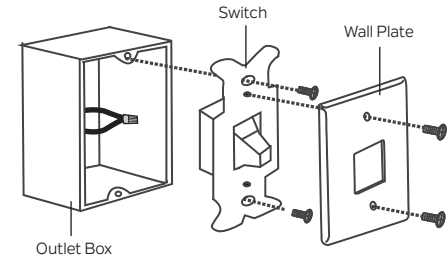

Fig. 22
Step 1. Remove the existing wall plate and the old switch from the wall outlet box. Wire nut the BLACK leads (hot) together and push back inside the outlet box. **(Fig. 22)**